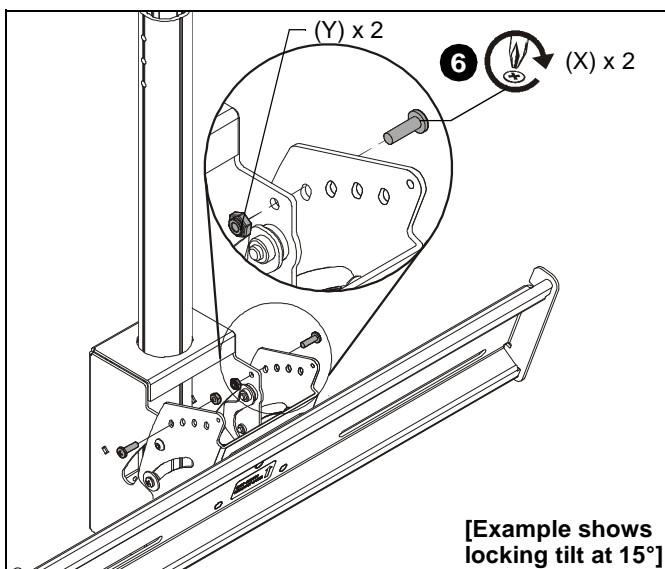

Figure 12
6. If using the tilt settings of 0°, 5°, 10° or 15°, insert two 10-24 x 5/8" Phillips head screws (X) and two 10-24 lock nuts (Y) to lock mount at the specific tilt. (See Figure 12)